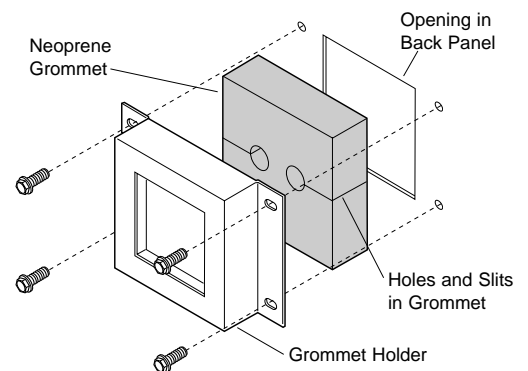

Figure 3—Cable Grommet
1. Remove cable grommet holder from back panel (refer to Figure 3).